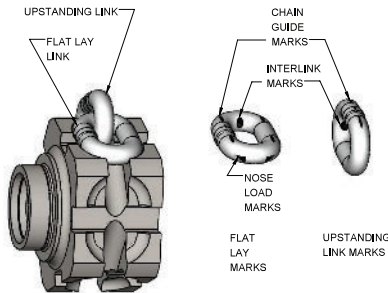

Figure 17. Chain Wear Areas
3. Slack the portion of the chain that normally passes over the liftwheel (sprocket) or idler sprocket on multi-reeved hoist. Examine the chain links for wear (see figure 17). If the wire diameter anywhere on the link measures less than 90% of the nominal wire diameter, replace the chain.